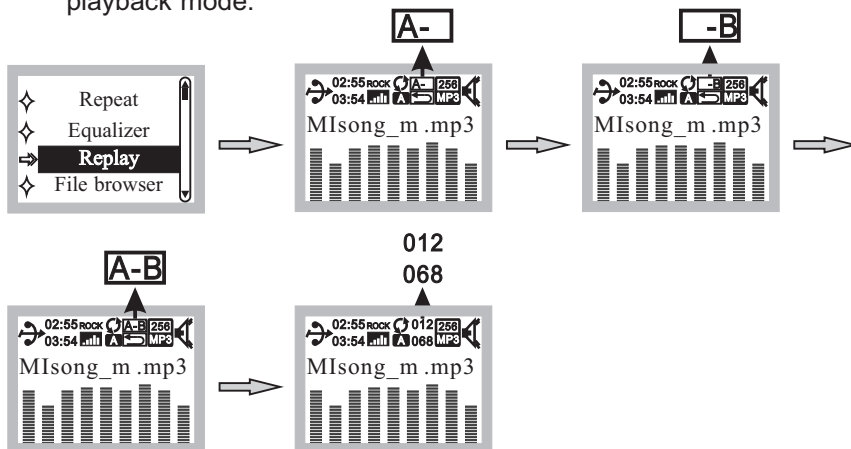

Fig. 14
(H) Replay Mode, Fig. 14:
- (1) Reply A- / -B mode.
- (2) In Replay Mode, press PLAY/PAUSE ⏸ to enter.
- (3) Press NEXT/TEN ▶▶ to select A- ; press NEXT/TEN ▶▶ again to select -B. Then it will replay A-B.
- (4) Press PLAY/PAUSE ⏸ to stop Replay Mode and return to playback mode.